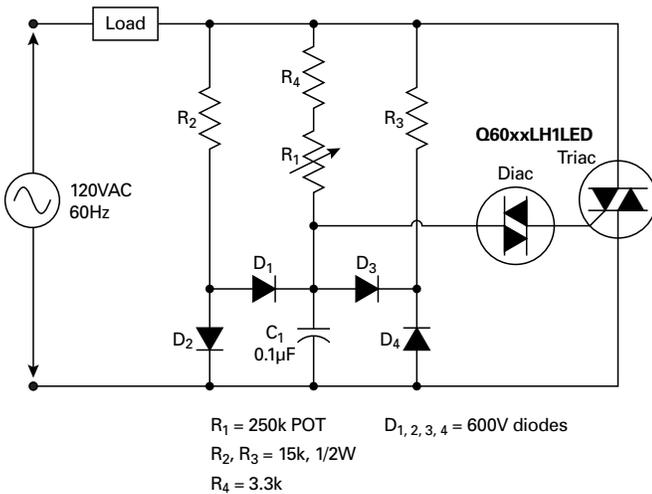

**Figure 2**
*Figure 2* illustrates a circuit diagram for such a control that might be ideal for a recessed flood lamp (for example, a BR30 LED lamp), which can be dimmed to produce a low-level light output or turned up to nearly 180° full light output.